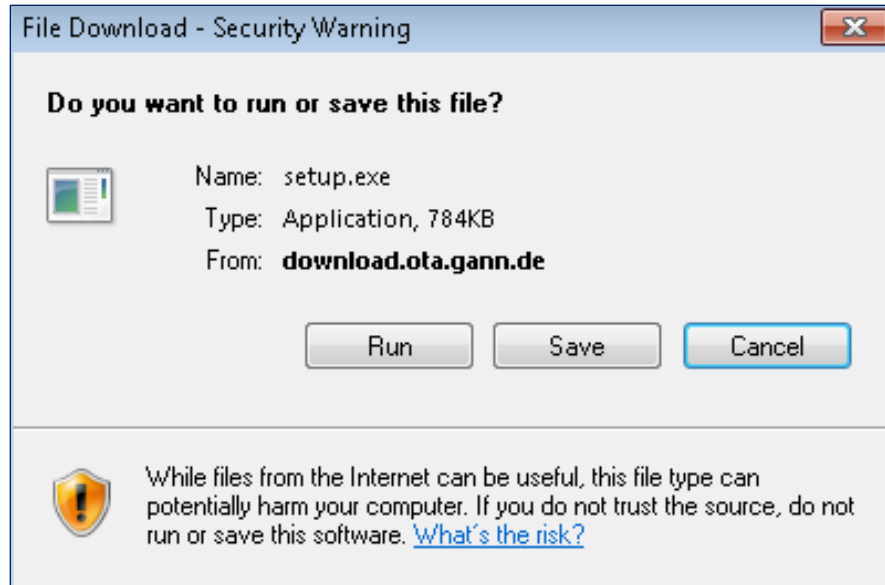

Figure 1-2: Software installation screenshot
- Click on the “Install” button as shown in Figure 1-2.